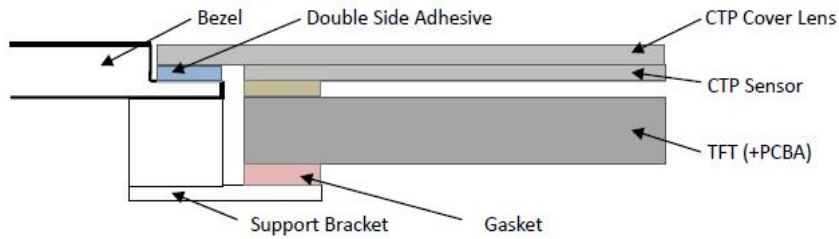

Figure 2
**7.2 Surface Mounting (Figure 2)**
**7.2 嵌入安装（附图2）**